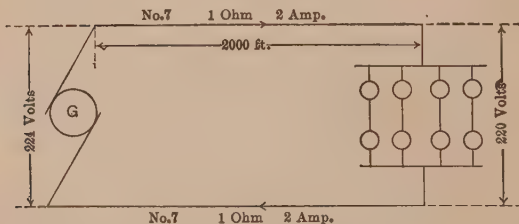
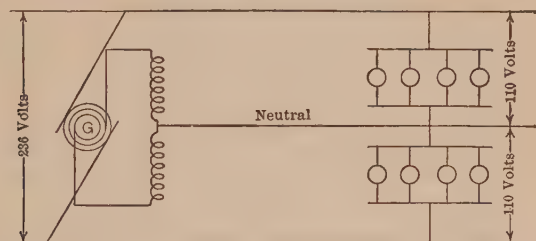

FIG. 91. Two-wire system. The two line wires each carry 4 times the current of each lamp.
FIG. 92. Three-wire system. Each outside wire carries 4 times the current of each lamp. The neutral carries no current in this case.
Suppose that we now arrange these same lamps as in Fig. 91. By placing two in series in each case, each lamp
It would require  $8 \times 2$ , or 16 volts to send the 2 amp. of Fig. 91 through this line.
To avoid this bad feature and still retain the advantage of transmitting at 220 volts, a third wire, called a **neutral**, has been added to the arrangement in Fig. 91, which produces the **three-wire system**, as shown in Fig. 92.
**50. Voltage Distribution in Three-Wire System.** In using the three-wire system, every effort is made to keep it balanced. In this case, the voltage, current and power distribution differ in no respect from that of a two-wire system, with lamps, or other electrical appliances, paired off, two in series, as in Fig. 91.